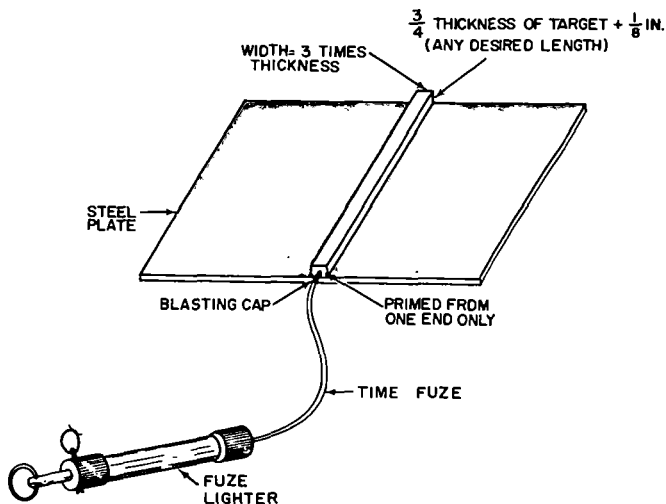

Figure 121. Ribbon charge.
- (3) *Ribbon charge.* This charge (fig. 121), if properly calculated and placed, cuts steel with considerably less explosive than standard charges. It is effective on noncircular steel targets up to 2 inches thick. The ribbon charge is det-